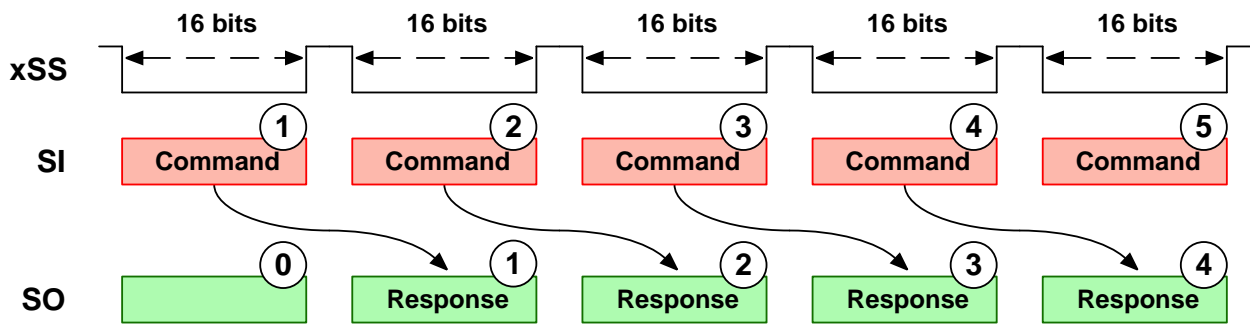

Figure 4: SPI overlapped packet structure
SPI communication uses an overlapped packet structure where the response to a command is returned while the next command is being sent. Figure 4 shows this for a single-device application (where the host controls a single iC-TW11 slave). See BUSSING MULTIPLE ICs on page 21 and CHAINING MULTIPLE ICs on page 22 for multiple device applications.
SPI command and response packets are always 16 bits long. The host initiates communication with the iC-TW11 by driving slave select (xSS) low and then clocking a 16-bit command (1) to the slave input, SI. The serial clock (SCLK) signal is not shown in Figure 4. The host drives xSS high at the end of the command packet and the iC-TW11 executes the command.